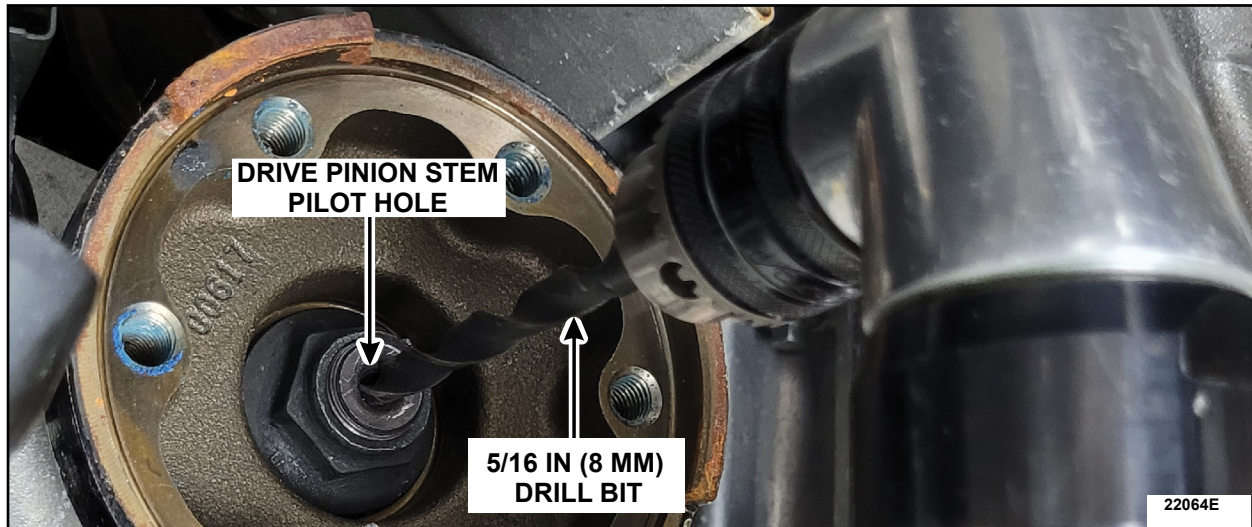

FIGURE 5
5. Using a 5/16 in (8 mm) drill bit and moderate pressure drill the drive pinion stem pilot hole for two seconds. See Figure 5.